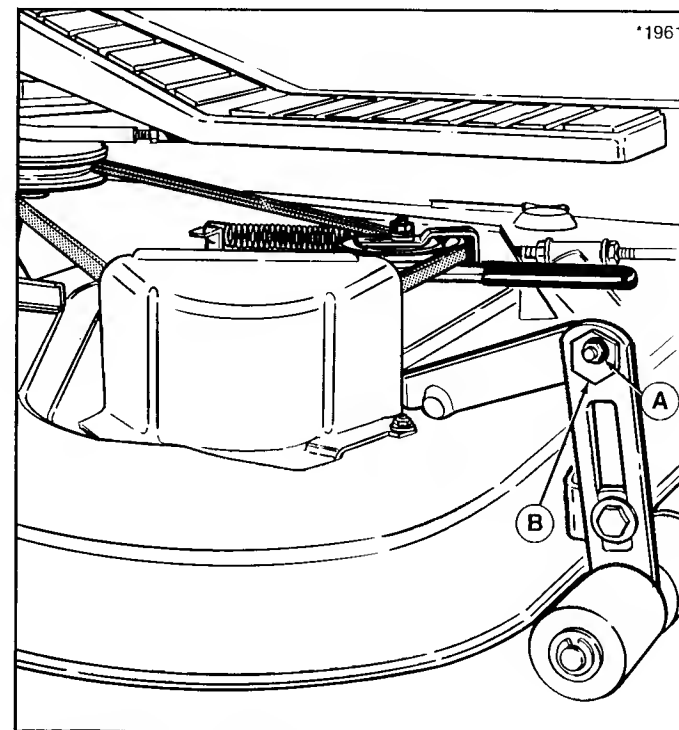

Figure 29. Side-To-Side Leveling
3. Turn the blades side-to-side and measure distance from outside tips of blades to ground. Measurement should be equal (within 1/8"). For adjustment, refer to figure 29.
- a. Loosen outside nut (A, figure 29).
- b. Turn eccentric hex nut (B) to raise or lower left-hand side of mower.
- c. Hold eccentric nut (B) and tighten nut (A). Recheck measurement.